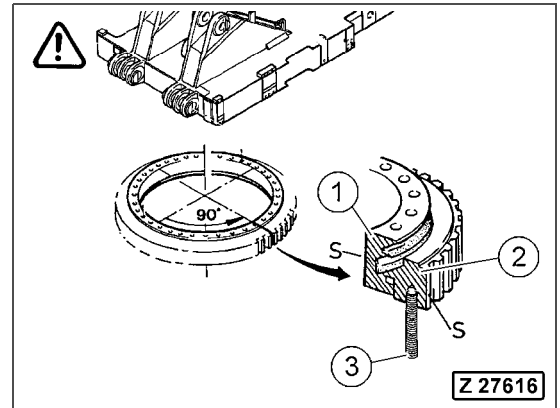

Fig. 3-234
NOTE: The unhardened spot of race surfaces (changeover area between beginning and ending of hardening process) is punch marked with an "S" at the inner resp. outer side of each slew ring (Fig. 3-234, Pos. 1 and 2).
- Align the spots (Fig. 3-234, Pos. S) to each other.
NOTE: To simplify the alignment of the slew ring to the undercarriage, install two threaded pins M 30 x 250 (Fig. 3-234, Pos. 3) displaced by 180° at the outer slew ring (Fig. 3-234, Pos. 2).